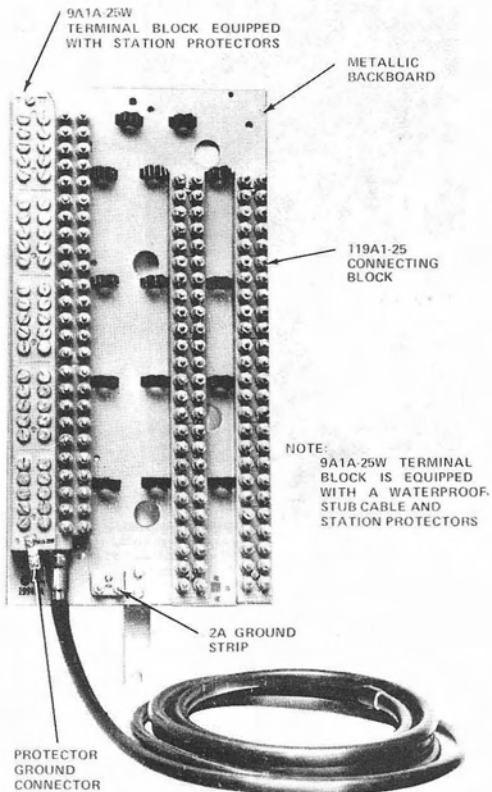

Fig. 3—199A1A25-50 Protector
2.03 The 199A1A25-50 protector is illustrated in Fig. 3. The metallic backboard has predrilled holes for mounting and a mounting lug located at its bottom center. It is equipped with wire retaining rings. Binding posts for 50 stations are provided. The 119A1-25 connecting blocks contain binding posts for 25 wire pairs each.